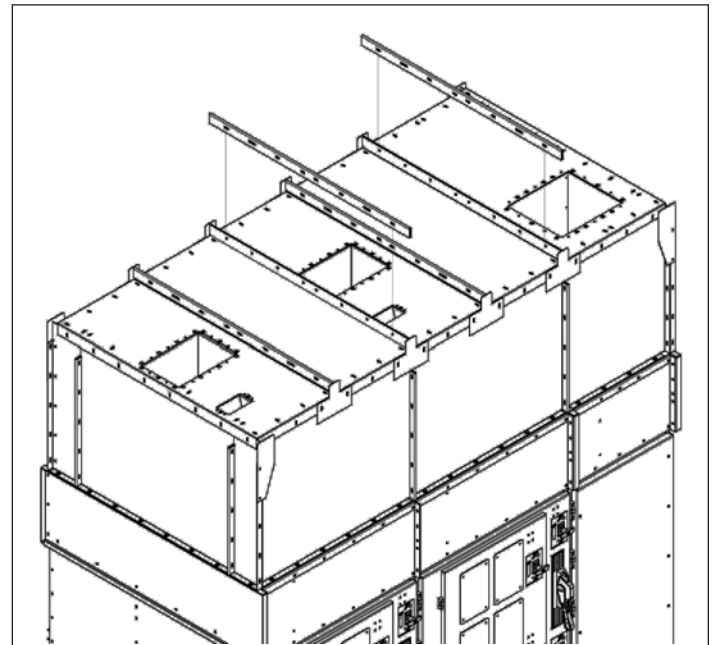

Figure 25. Installing Horizontal Covers
- C Install a horizontal seam cover (87C1093H01) over all roof flanges using 5/16-18 standard bolts and nuts. (See **Figure 25**).